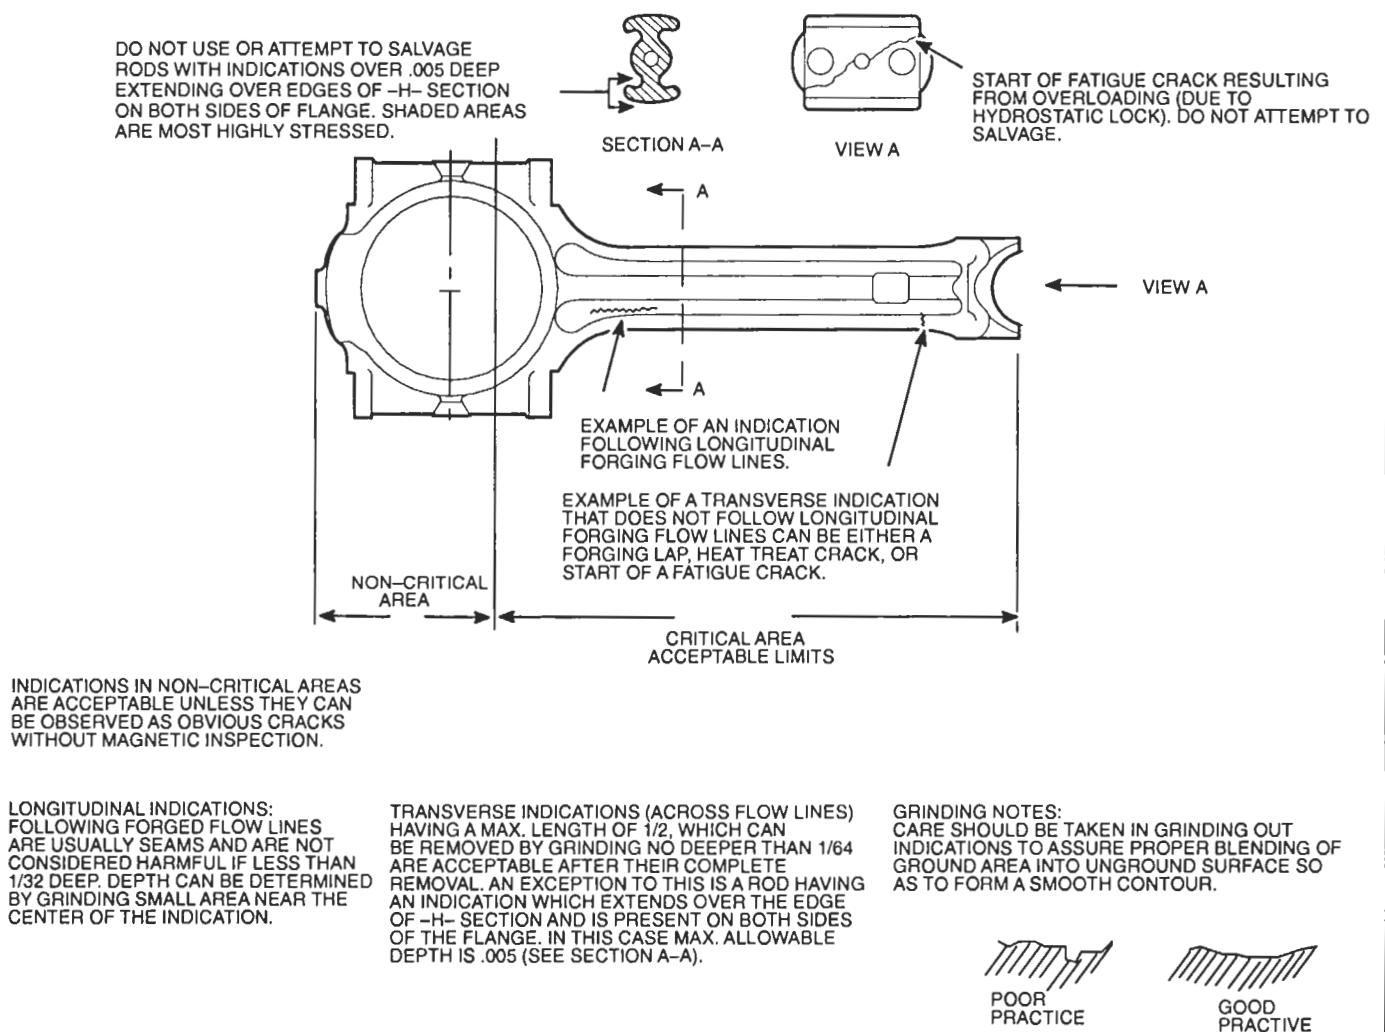

Figure 13. Magnetic Particle Inspection Limits for Connecting Rod
1. Check for cracks (Figure 13.) by the magnetic particle method outlined in Section 1.3.